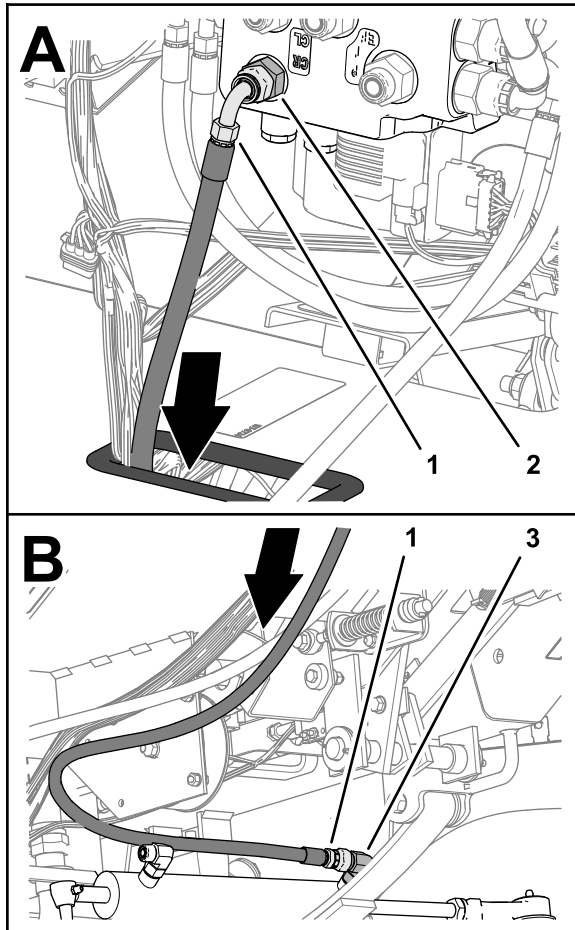

Figure 119
1. Route the end of the hose 6 x 1397 mm (1/4 x 55 inches) with the straight fitting through the grommet in the floor plate (Figure 119).
2. Assemble the 90° fitting of the hose 6 x 1397 mm (1/4 x 55 inches) onto the port CR fitting of the EHI steering valve (Figure 119).
5. Assemble the straight fitting of the hose 6 x 1397 mm (1/4 x 55 inches) onto the 90° fitting in the retract port of the steering cylinder, and tighten both hose fittings (Figure 119).